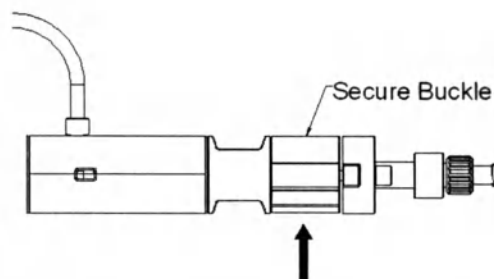

Fig. 9 Remove the Secure Buckle
- Keep the delivery system stationary. Remove the Secure Buckle from the grip of the delivery system. (Fig. 9)